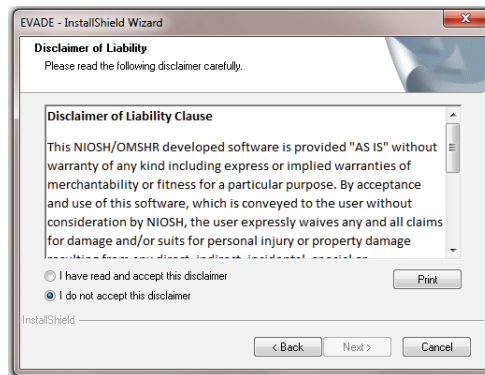

**Figure 7. The initial installation window for EVADE.**
4. The initial installation window appears (Figure 7). This is the Setup Wizard which will guide you through the installation process.